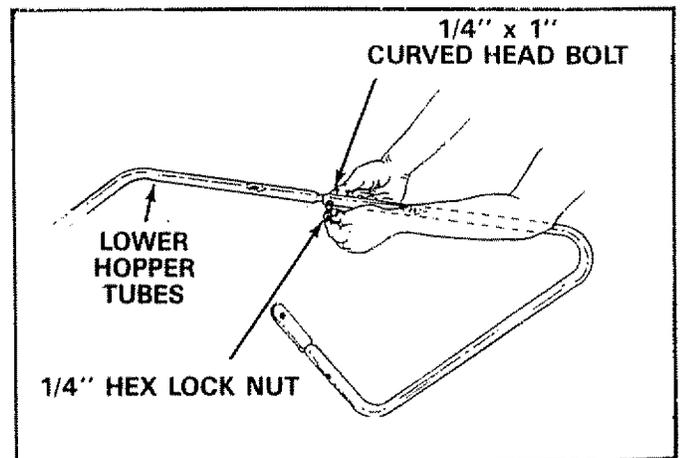

FIGURE 13
4. Assemble the two lower hopper tubes as shown in figure 13. Secure with 1/4" x 1" curved head bolt and 1/4" hex lock nut. See figure 13.